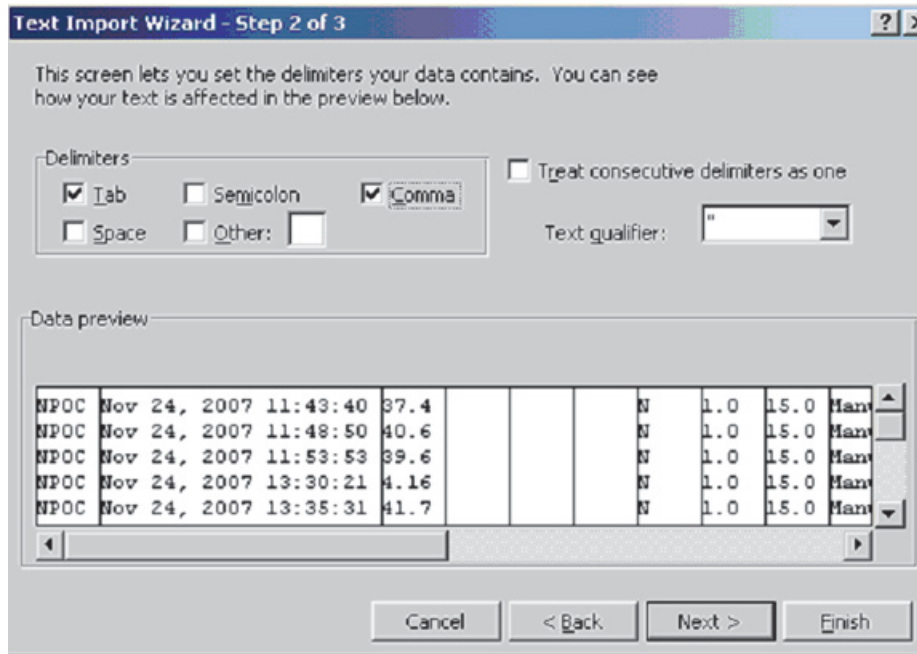

Figure 95: Excel Spreadsheet Program — Text Import Wizard - Step 2
7. Make sure the **Comma** check box is selected, to identify the file as being comma-delimited (Figure 95).